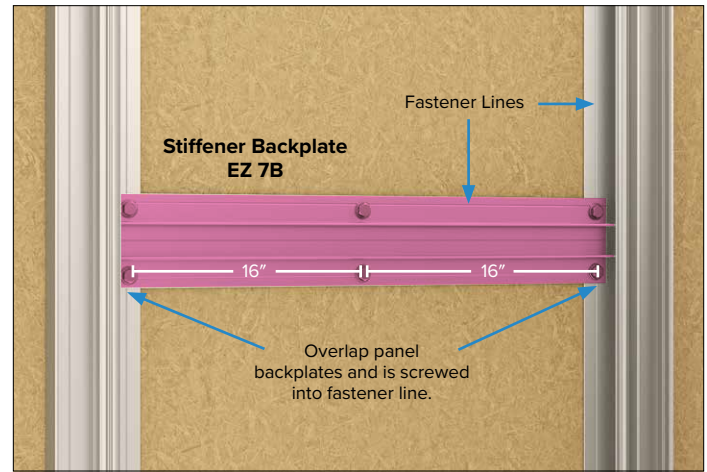

Figure 2
- 2 Install panel stiffener backplate (EZ 7B) slightly overlapping panel backplates. Fasten it with screws into the fastener lines at 16" O.C. (Figure 2).